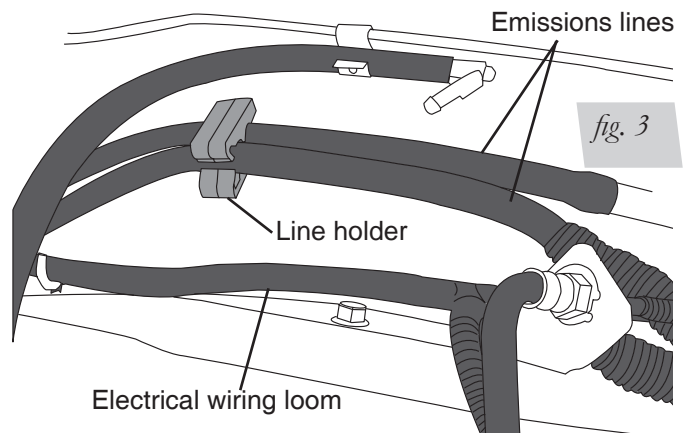

fig. 3
If your model truck has emission lines running along the inside of the frame rail (fig. 3), it will be necessary to relocate those lines as follows:
- Carefully push the line holder out of the frame above the axle. Try to minimize damage because it will be reused later. It may also be helpful to remove any holders forward or rearward of the axle to aid in positioning the lines once the upper bracket has been installed (fig. 3).